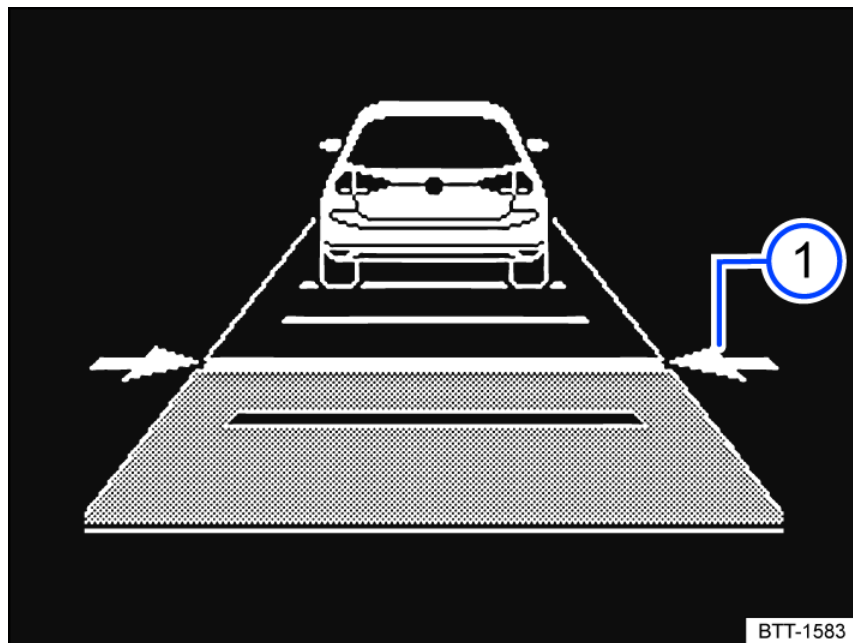

Fig. 141 In the instrument cluster display: set distance ① (general example, ACC is regulating).
The instrument cluster display shows the selected level **fig. 141 ①**. Heed the country-specific regulations for minimum distance.